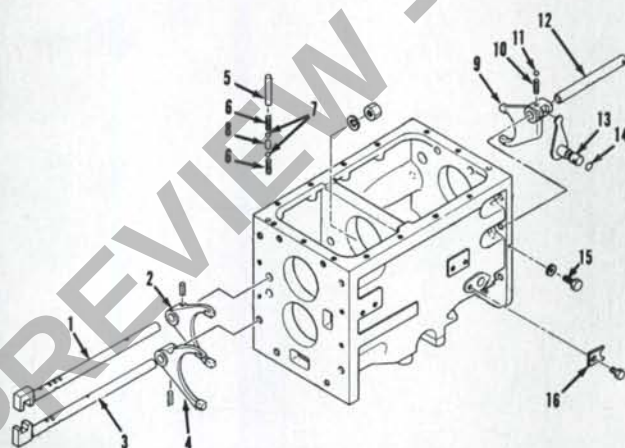

Fig. 200—Exploded view of main and range transmission shift forks and rails used on Model 2120 equipped with hydraulic shift shuttle transmission.
Remove shift detent pin (5—Fig. 200), spring (6) and ball (7) from top of transmission housing. Drive roll pin out of first-second (upper) shift fork (2), then slide shift rail (1) out front of housing and remove shift fork. Drive roll pin out of third-fourth (lower) shift fork (4). Turn shift rail (3) 90 degrees, then slide rail out front of housing and remove shift fork, interlock pin (8), ball (7) and spring (6).
Remove shift rail lock bolt (15—Fig. 200), rotate range gear shift rail (12) 90 degrees and slide rail out rear of housing. Be careful not to lose detent ball (11) when shift rail is removed. Remove retainer plate (16)